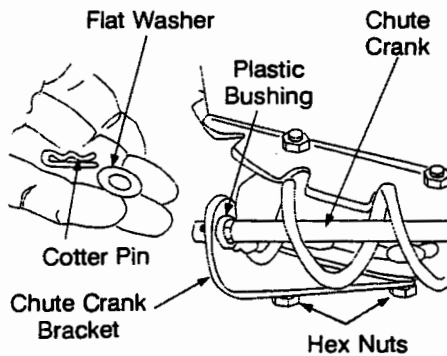

FIGURE 12
- Disconnect chute crank assembly at the discharge chute by removing the cotter pin and flat washer. See Figure 12.